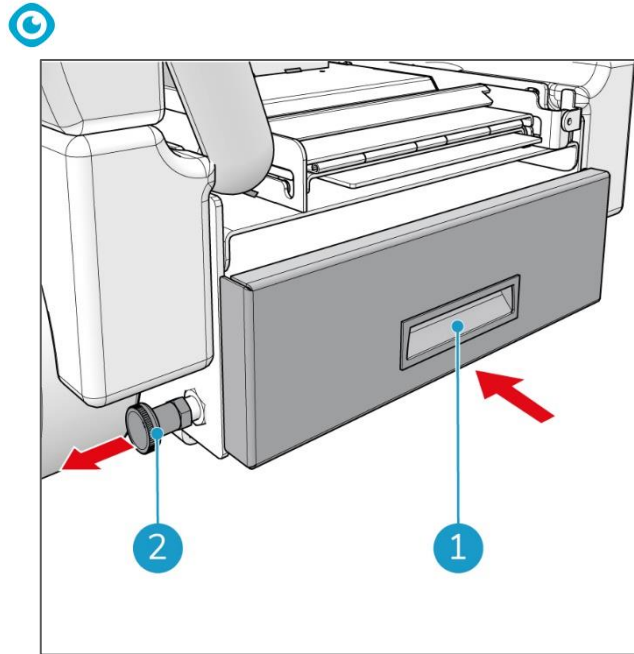

Figure 19
5. Pull out the locking pin on the left side (Figure 19, pos 2) of the battery drawer.
6. Push the battery drawer into the CO-BOTIC 65™ by the black handle (Figure 19, pos 1) until it locks into place.